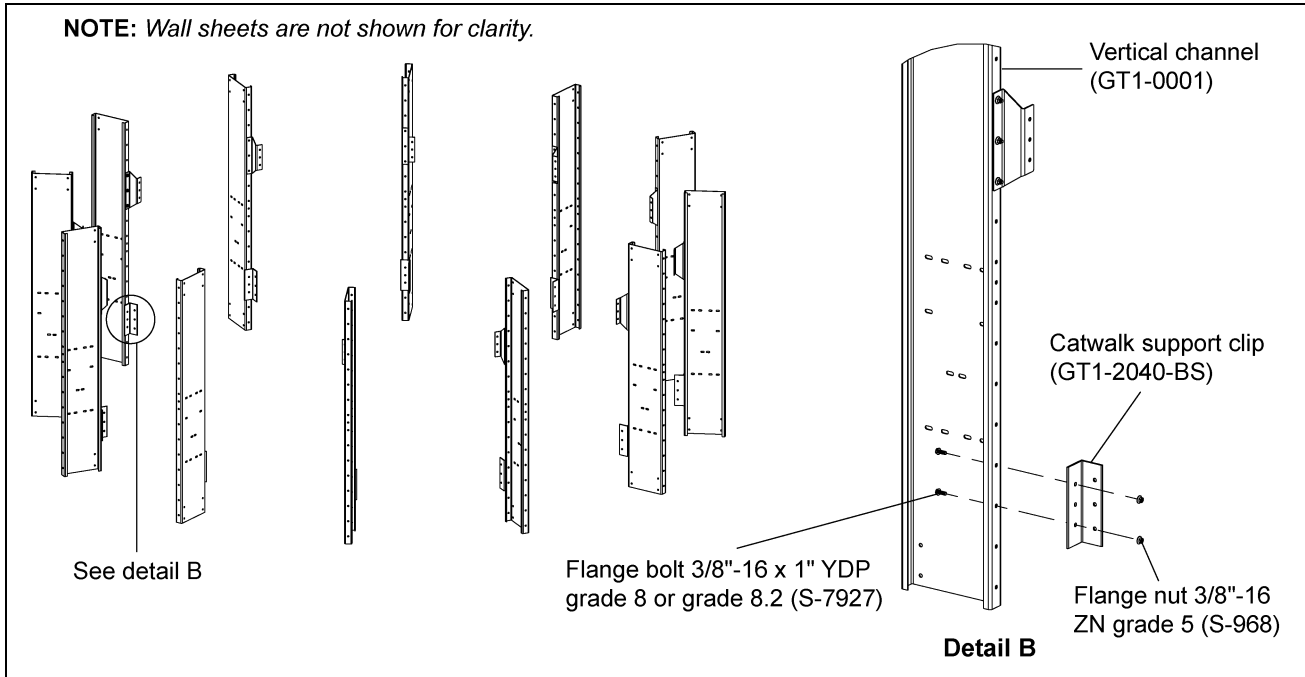

Figure 5B
1. Install catwalk support clips (GT1-2040-BS) to vertical channels (GT1-0001). Support clip can be installed on each vertical channel as the inner wall sheets are installed using 3/8"-16 x 1" YDP grade 8 or grade 8.2 bolts (S-7927) and 3/8"-16 ZN grade 5 nuts (S-968). (See Figure 5B.)